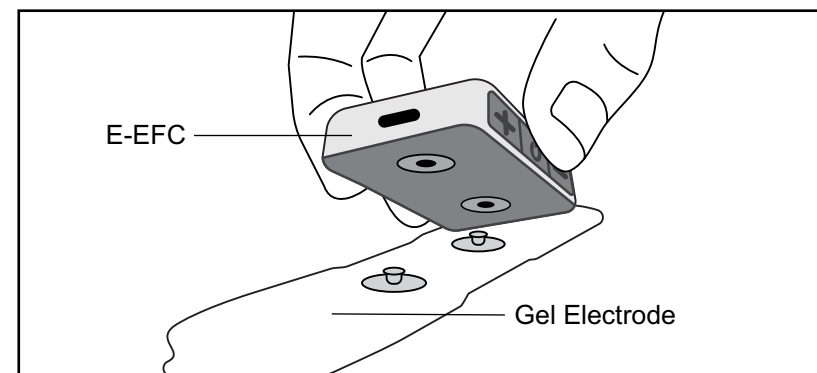

Figure 6-2: StimRouter E-EFC connecting to Gel Electrode.
5. Snap the E-EFC onto the Gel Electrode. See Figure 6-2.